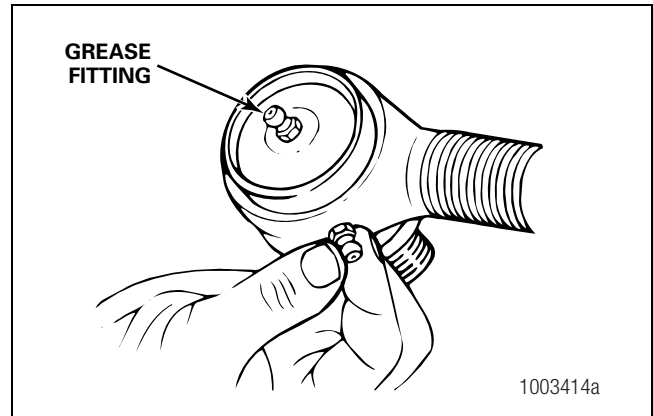

Figure 5.6
3. If tie rod ends have grease fittings, check fittings for wear and damage. Replace worn or damaged fittings. If a grease fitting is missing, install a new one. Don't try to install a grease fitting onto a tie rod end that's a non-greaseable design. Figure 5.6.